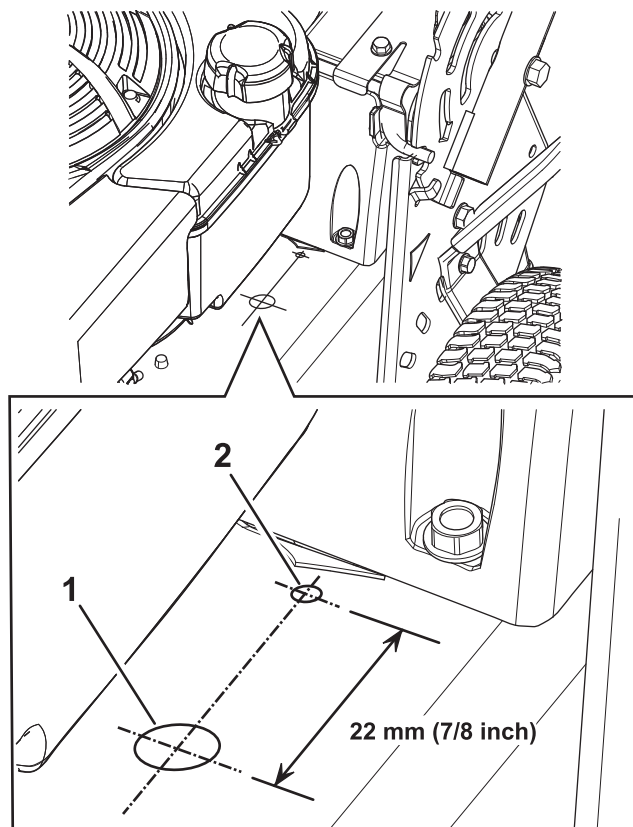

Figure 1
2. Drill and deburr a 16 mm (5/8 inch) diameter hole in the mower housing in the location shown in Figure 1.